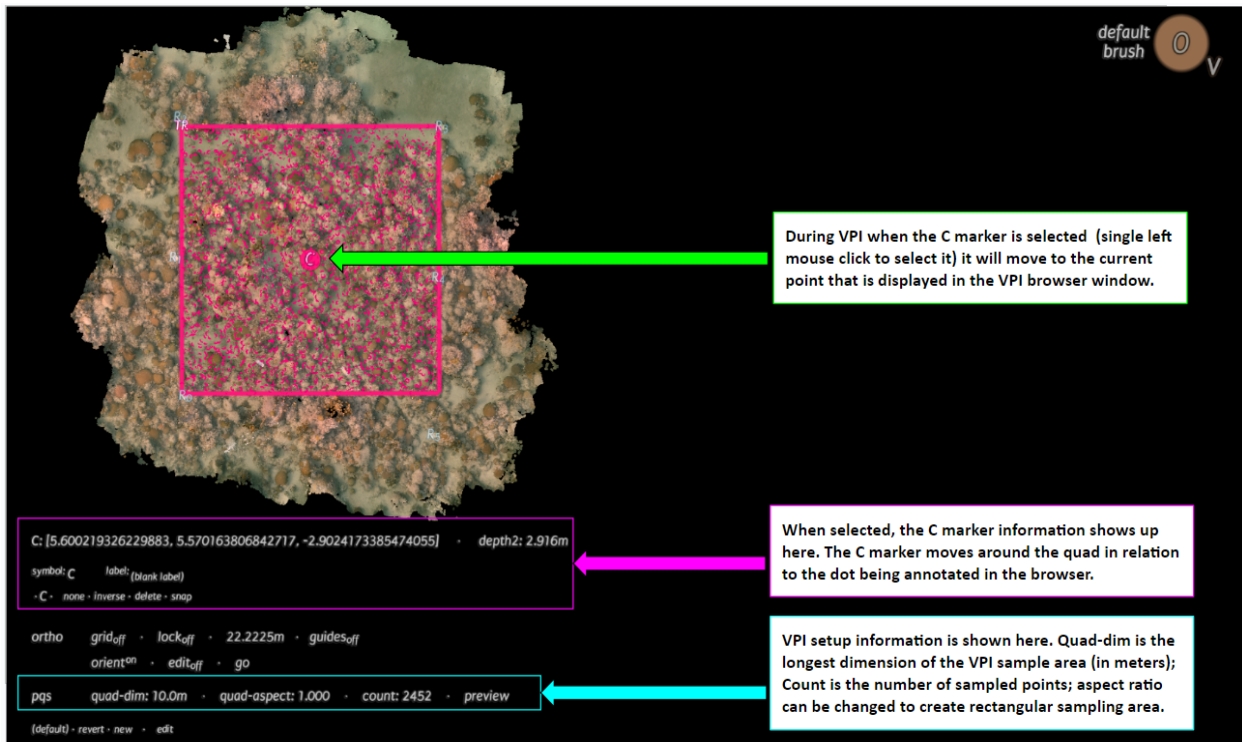

Figure 84. Overview of PQs menu items in Viscore Viewer window.
- As with temporary markers, when the `C` marker is selected, it will appear in the Marker menu (Figure 84).